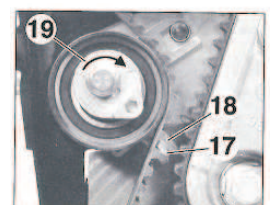

FIG. 4
- 4 Loosen the tensioner bolt and turn the tensioner until the mobile indicator (17) [FIG. 4] is aligned with the mark (18 - nominal position) [FIG. 4].